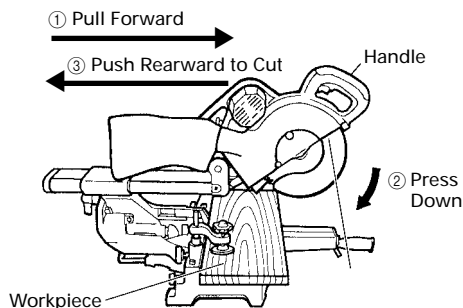

Fig. 28
Then press down on the handle and slide the saw blade back to cut the workpiece as indicated in Fig. 28. This facilitates cutting of workpieces of up to 3-11/32" (85mm) in height and 12-9/32" (312mm) in width.
(2) Workpieces up to 3-9/16" (90mm) high and 11" (280mm) wide: Workpieces of up to 3-35/64" (90mm) in height and up to 11" (280mm) in width can be cut in the same manner as described in paragraph 6-(1) above.
- * For slide cutting, follow the procedures indicated above in Fig. 28. Forward slide cutting (toward the operator) is very dangerous because the saw blade could kick upward from the workpiece. Therefore, always slide the handle away from the operator.